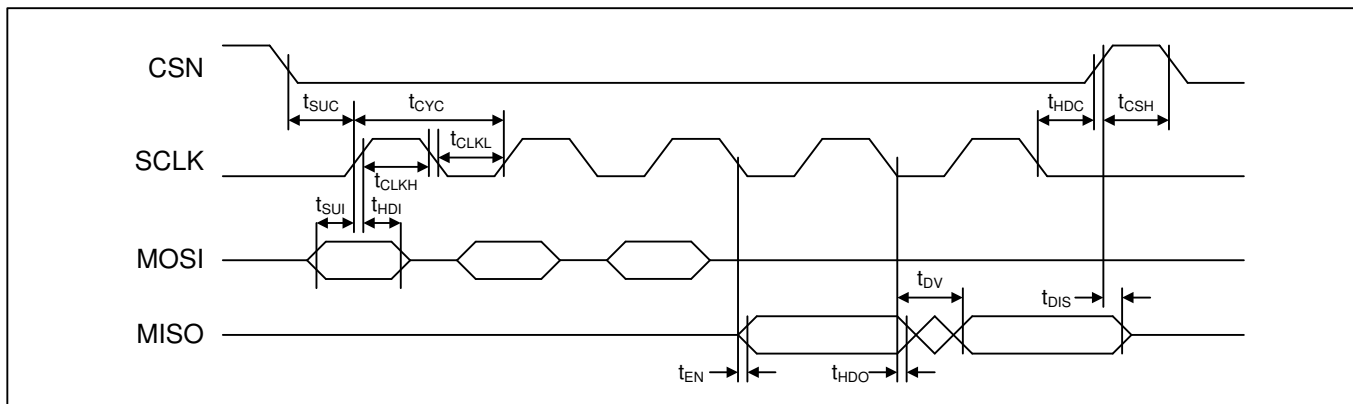

Figure 11 - SPI Slave Interface Timing
- Note 3:** See timing diagram in Figure 11.